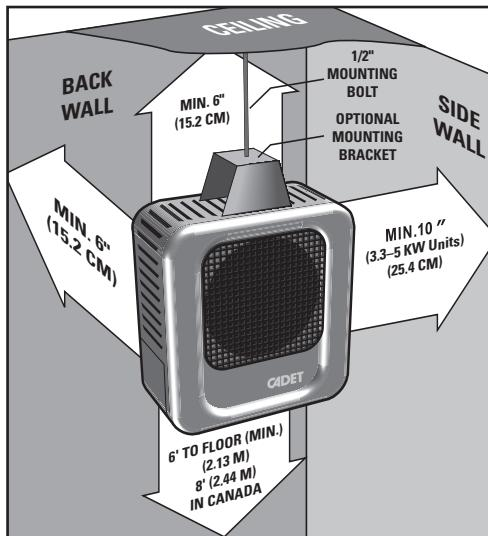

Figure 2. Horizontal mounting clearances with optional bracket (CEK-M1).
A minimum clearance for each heater (both horizontal and vertical mount) is listed in Figure 2. Please follow these recommendations to avoid potential problems with the function and safety of the heater.
(See Figure 2 for minimum clearances)
2. Mounting with optional bolt-on ceiling brackets: (Figure 2)
*NOTE: When mounting for vertical discharge, position unit so that access door opens away from nearest wall. This permits maximum access to wiring compartment (Figures 2 & 6).*